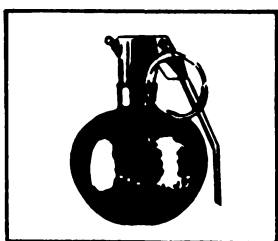
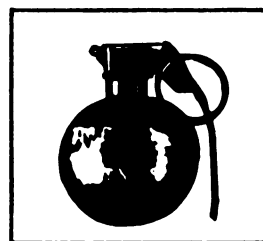

Figure 1.
Figure 2.
1. Identification of hand grenades. You must be able to identify those grenades which you will usually find within your unit by their shape, color and/or markings. Figures 1 through 11 will assist you in becoming familiar with the more common grenades currently available.
**\*All of these have impact detonating fuze M217 which has a red safety lever with word IMPACT on it. Notice in figure 2 how the fuze head (M217) is shorter than the time delay fuze pictured in figures 1, 3, and 4.**